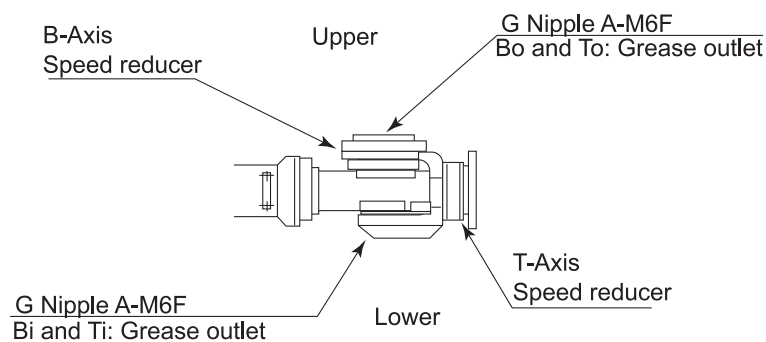

Fig. 25 B-Axis and T-Axis Speed Reducer Diagram
■ Grease Replenishment(Refer to " Fig. 25 B-Axis and T-Axis Speed Reducer Diagram ".)
1. Make the robot wrist posture as shown in Fig.25.
■ Grease Replacement(Refer to " Fig. 25 B-Axis and T-Axis Speed Reducer Diagram ".)